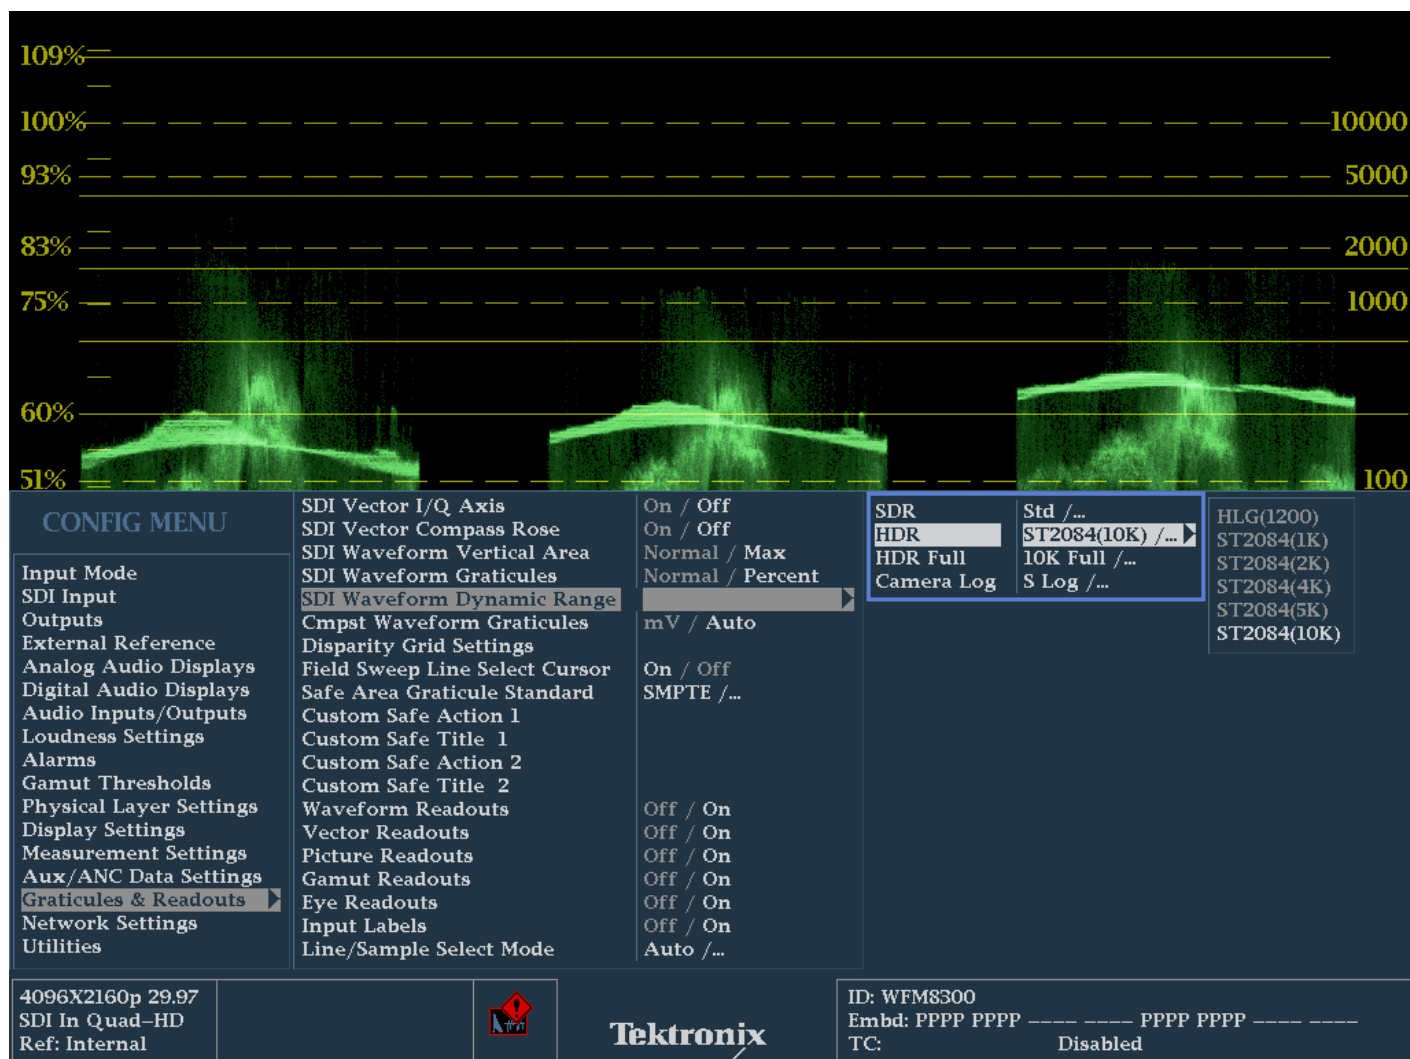

FIGURE 2. SDI Waveform Dynamic Range Configuration Menu.
13. Each sub menu has a range of graticules that are available for that mode, for instance HDR can select between **HLG(1200)**, **ST2084 (1K)**, **ST2084 (2K)**, **ST2084 (5K)**, **ST2084 (10K)** as shown in Figure 2.
Note: For HDR / HDR Full and Camera Log monitoring the waveform Graticules and Readouts for SDI Vertical Area and with the SDI Waveform Graticule have no effect on the graticule as shown in Figure 2.